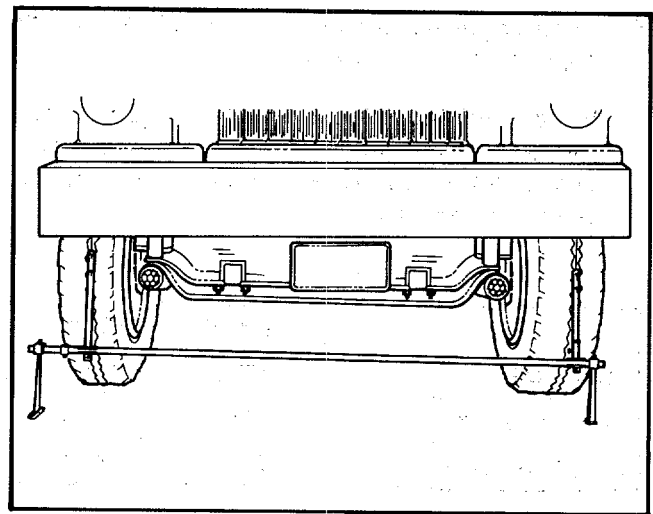

Figure 40
- E. Position trammel bar at rear of tires and adjust pointers to line up with scribe lines and lock in place (scale should be set on zero). Pointers must be raised to spindle height on the tire as shown (Figure 40).